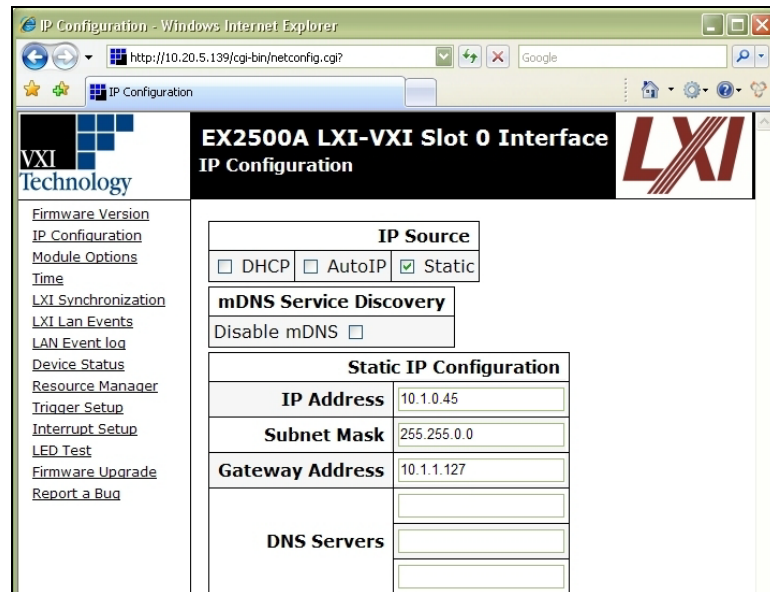

FIGURE 8-5: EX2500A SET TO USE STATIC IP
- 5) Select the **Static** checkbox in the **IP Source** field and ensure that **DHCP** and **AutoIP** are *not* selected. Figure 8-5 shows the proper configuration.